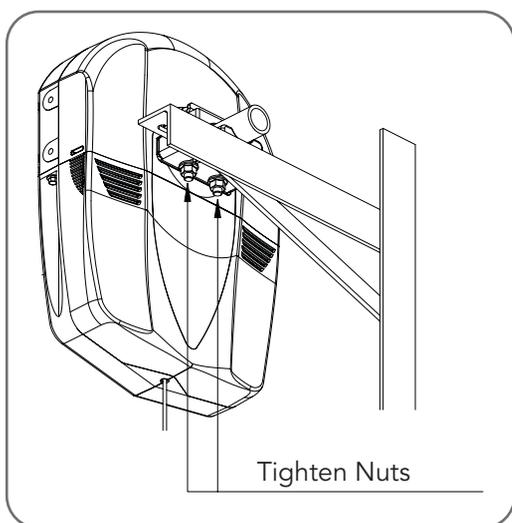

Fig 6.4
- Using your reference marks as a guide, sit the opener on the door mounting bracket and secure with the opener's bolts and saddle and tighten firmly (Fig. 6.4).